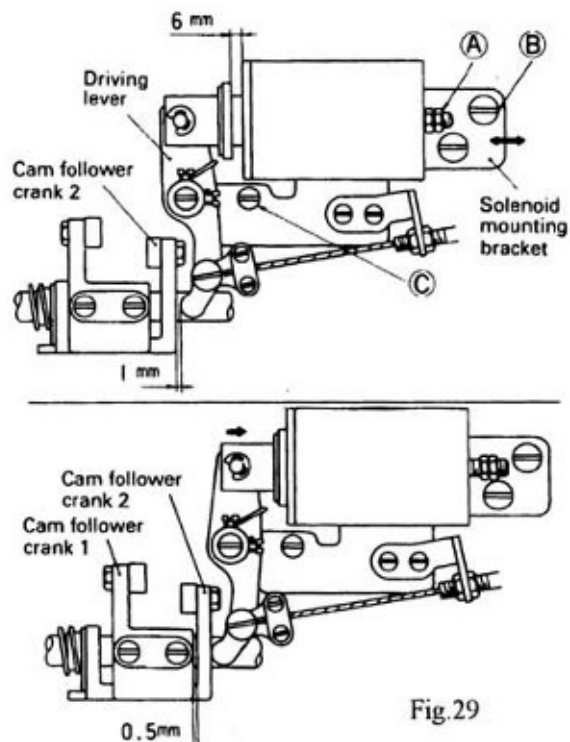

Fig.29
2) Installing the thread trimmer solenoid unit Fig.29: